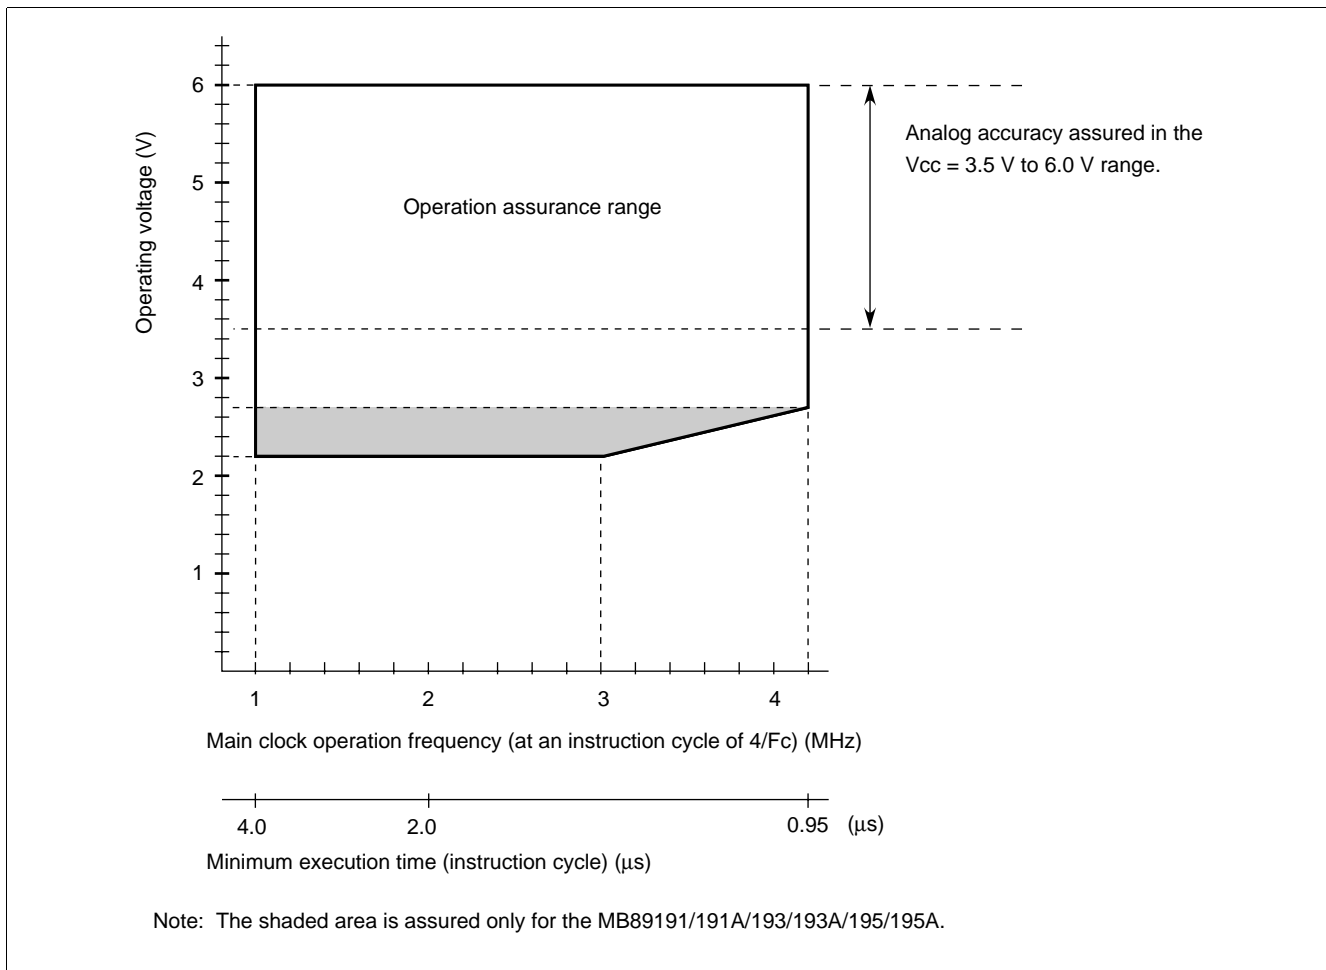

Figure 1 Operating Voltage vs. Main Clock Operating Frequency
* : These values vary with the operation frequency and the assured analog operation range. See Figure 1 and “ 5. A/D Converter Electrical Characteristics.”
Figure 1 indicates the operating frequency of the external oscillator at an instruction cycle of $4/F_c$.